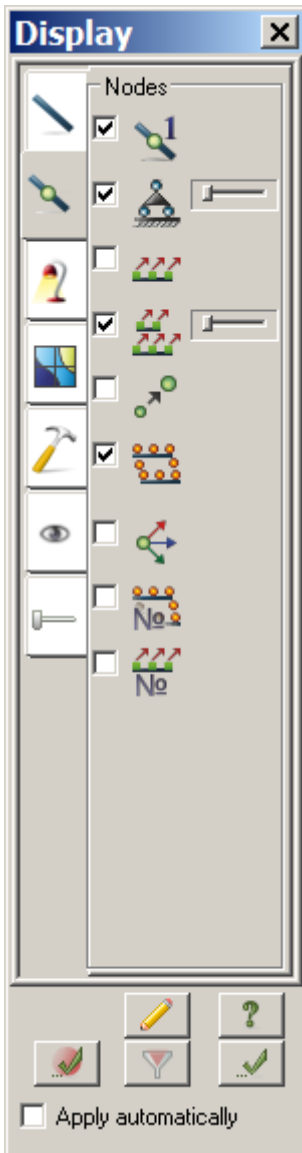

Figure 2.4 **Create plane fragments and grids** dialog box
- ⇒ In the **Display** dialog box (see Fig.2.4), select the **Node numbers** check box on the **Nodes** tab.